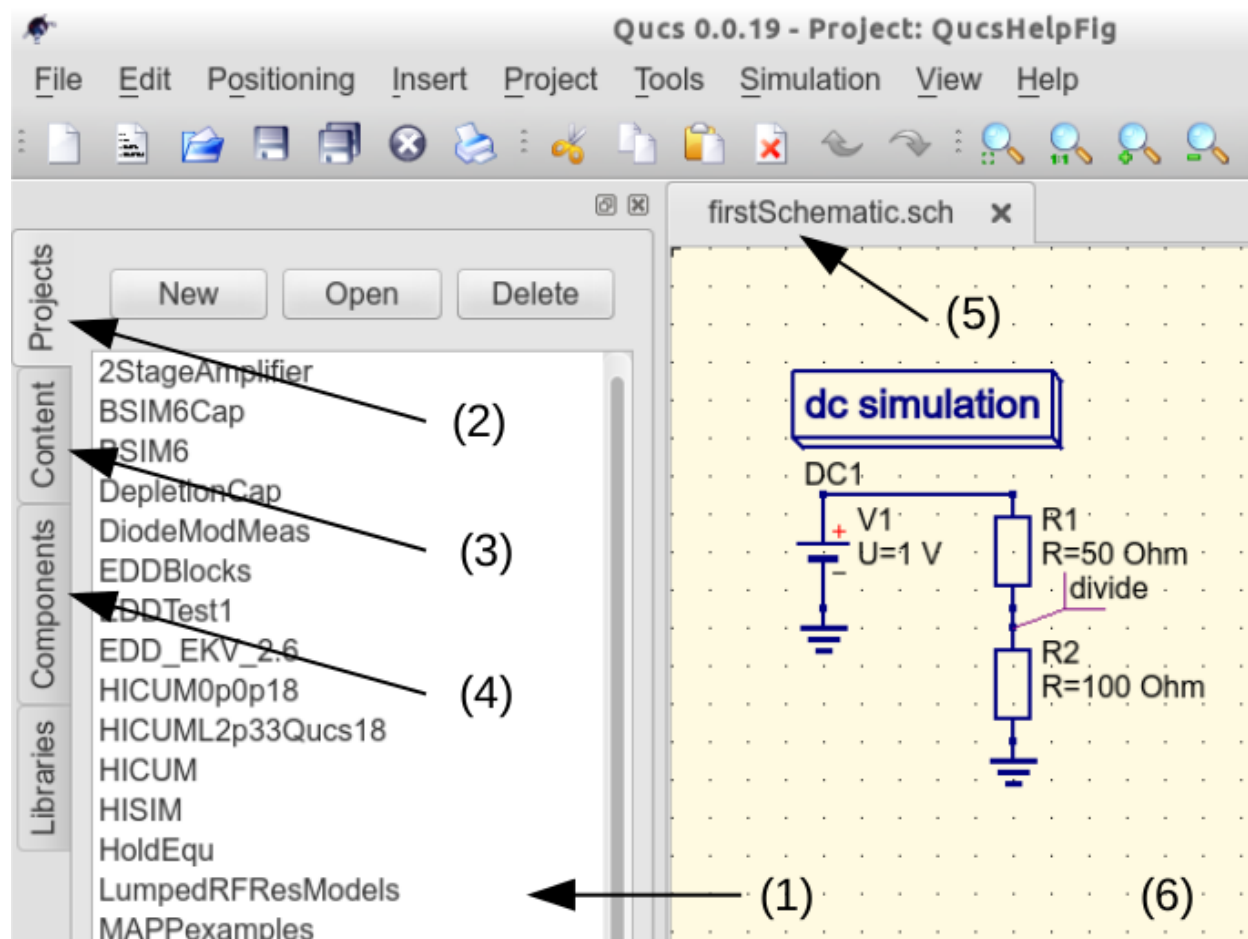
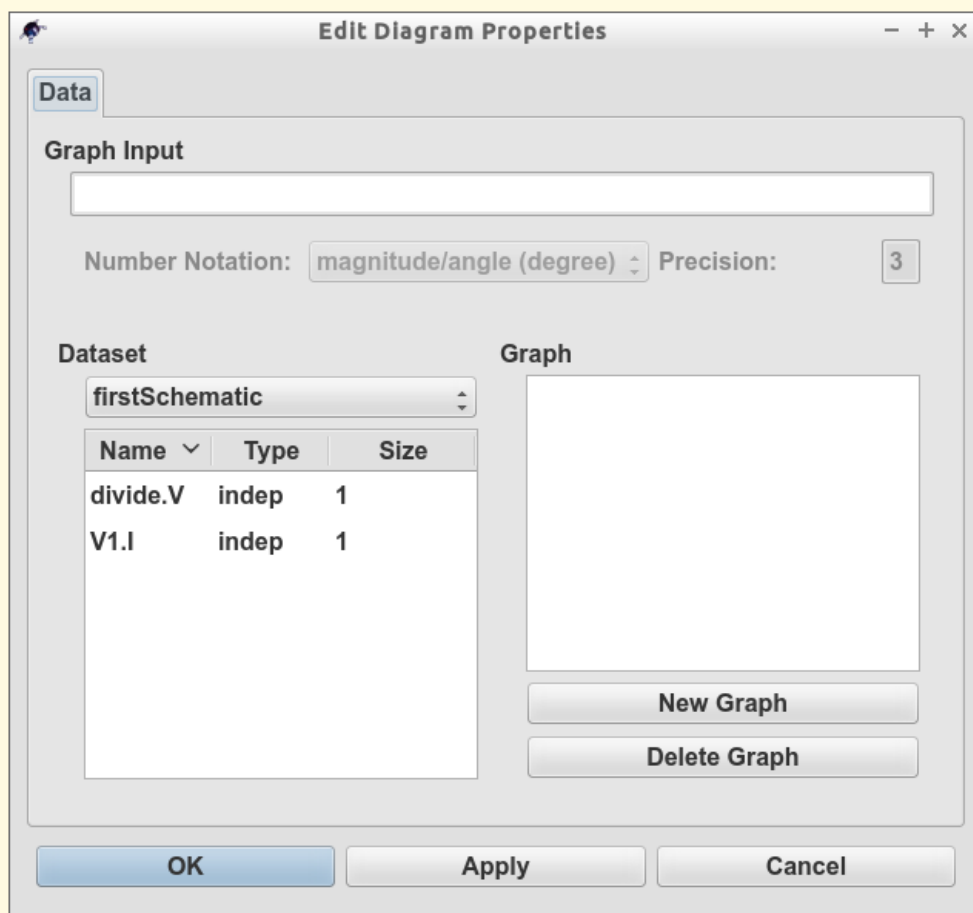

Рис. 3 - Главное окно Qucs с отмеченными рабочими зонами
Рис. 4 - Окно отображения данных Qucs, показывающее табличный диалог
On launching Qucs a working area labelled (6) appears at the centre of the GUI. This window is used for displaying schematics, numerical and algebraic model and circuit design data, numerical output data, and signal waveforms and numerical data visualised as graphs, see Figure 3. Clicking, with the left hand mouse button on any of the entries in the tabular bar labelled (5) allows users to quickly switch between the currently open documents. On the left hand side of the Qucs main window is a third area labelled (1) whose content depends on the status of **Projects** (2), **Content** (3), **Components** (4) or **Libraries**. After running Qucs, the **Projects** tab is activated. However note, when Qucs is launched for the first time the **Projects** list is empty.
To enter a new project left click on the **New** button located on the right above window (1). This action causes a Qucs GUI dialogue to open. Enter the name of a Qucs project in the box provided, for example enter *QucsHelpFig* and click on the **OK** button. Qucs then creates a project directory in the `~/qucs` directory. In the example shown in Figure 3 this is called **QucsHelpFig_prj**. Every file belonging to this new project is saved within the **QucsHelpFig_prj** directory. On creation a new project is immediately opened and its name displayed on the Qucs window title bar. The left tabular bar is then switched to **Content**, and the content of the currently opened project displayed. To save an open document click on the **save** button (or use the main menu: **File** → **Save**). This step initiates a sequence which saves the document displayed in area (6). To complete the save sequence the program will request the name of your new document. Enter *firstSchematic*, or some other suitable name, and click on the **OK** button to complete the save sequence.
As a first example to help you get started with Qucs enter and run the simple DC circuit shown in Figure 3. The circuit illustrated is a two resistor voltage divider network connected to a fixed value DC voltage source. Start by clicking on the **Components** tab. This action causes a combo box to be displayed from which a component group may be chosen and the required components selected. Choose components group **lumped components** and click on the first symbol: **Resistor**. Next move the mouse cursor into area (6). Pressing the right mouse button rotates the **Resistor** symbol. Similarly, pressing the left mouse button places the component onto the schematic at the place the mouse cursor is pointing at. Repeat this process for all components shown in Figure 3. The independent DC voltage source is located in the **sources** group. The ground symbol can be found in the **lumped components** group or selected from the Qucs toolbar. The icon requesting DC simulation is listed in the **simulations** group. To edit the parameters of the second resistor, double-click on it. A dialogue opens which allows the resistor value to be changed; enter *100 Ohm* in the edit field on the right hand side and click enter.
To connect the circuit components shown in Figure 3, click on the wire toolbar button (or use the main menu: **Insert** → **Wire**). Move the cursor onto an open component port (indicated by a small red circle at the end of a blue wire). Clicking on it starts the wire drawing sequence. Now move the drawing cursor to the end point of a wire (normally this is a second red circle attached to a placed component) and click again. Two components are now connected. Repeat the drawing sequence as many times as required to wire up the example circuit. If you want to change the corner direction of a wire, click on the right mouse button before moving to an end point. You can also end a wire without clicking on an open port or on a wire; just double-click the left mouse button.
As a final step before DC simulation label the node, or nodes, whose DC voltage is required, for example the wire connecting resistors **R1** and **R2**. Click on the label toolbar button (or use the menu: **Insert** → **Wire Label**). Now click on the chosen wire. A dialogue opens allowing a node name to be entered. Type *divide* and click the **OK** button. If you have drawn the test schematic correctly the entered schematic should look the same, or be similar to, the one shown in Figure 3.
To start DC simulation click on the **Simulate** toolbar button (or use menu: **Simulation** → **Simulate**). A simulation window opens and a sliding bar reports simulation progress. Normally, all this happens so fast that you only see a short flickering on the PC display (this depends on the speed of your PC). After finishing a simulation successfully Qucs opens a data display window. This replaces the schematic entry window labelled (6) in Figure 3. Next the **Components** → **diagrams** toolbar is opened. This allows the simulation results to be listed. Click on the **Tabular** item and move it to the display working area, placing it by clicking the left hand mouse button. A dialogue opens allowing selection of the named signals you wish to list, see Figure 4. On the left hand side of the **Tabular** dialogue (called Edit Diagram Properties) is listed the node name: **divide.V**. Double-click on it and it will be transferred to the right hand side of the dialogue. Leave the dialogue by clicking the **OK** button. The DC simulation voltage data for node **divide** should now be listed in a box on the data display window, with a value of 0.666667 volts.